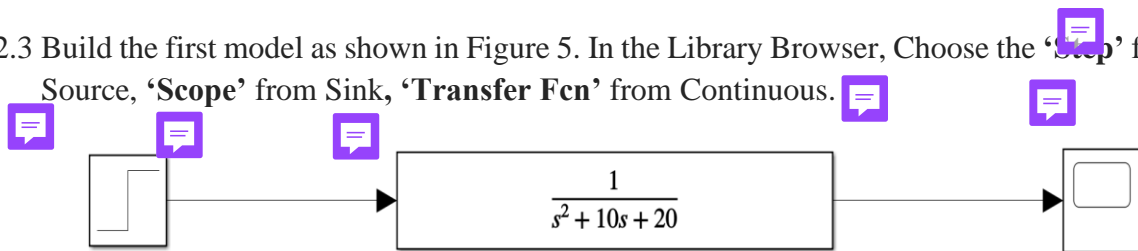

Figure 5. First Simulink Model
2.3 Build the first model as shown in Figure 5. In the Library Browser, Choose the 'Step' from Source, 'Scope' from Sink, 'Transfer Fcn' from Continuous.